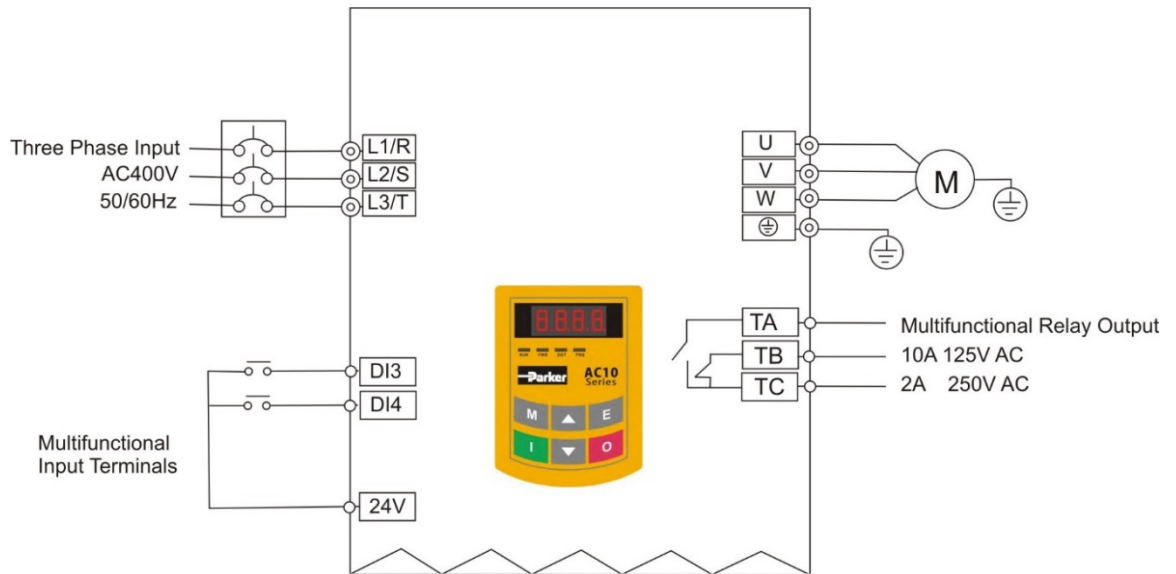

Figure 8-2 Wiring Diagram 2
- i. Connect the wires in accordance with **Figure 8-2**. After having checked the wiring successfully, switch on the main switch, and power on the inverter;